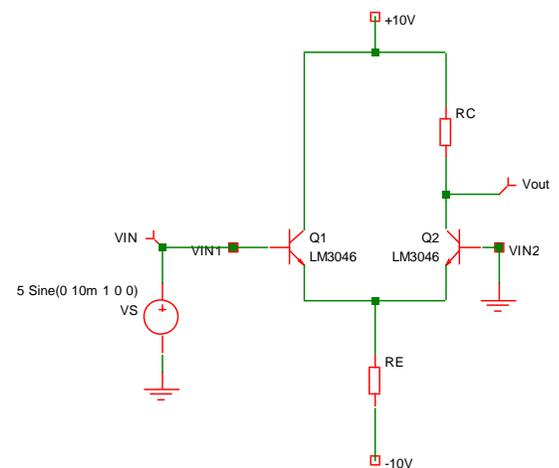

Fig. 3: Differential gain measurement setup.
- Keep V_{IN2} grounded (see Fig. 3).